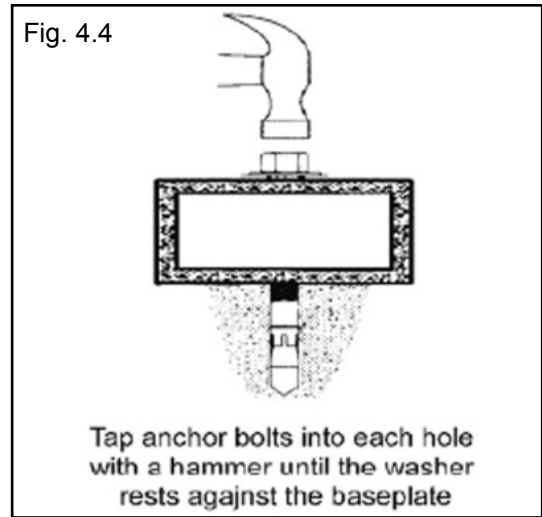

Fig. 4.4
3. Assemble the washers and nuts on the anchors then tap into each hole with a hammer until the washer rests against the tube. Be sure that if shimming is required, enough threads are left exposed. (See Fig. 4.4)